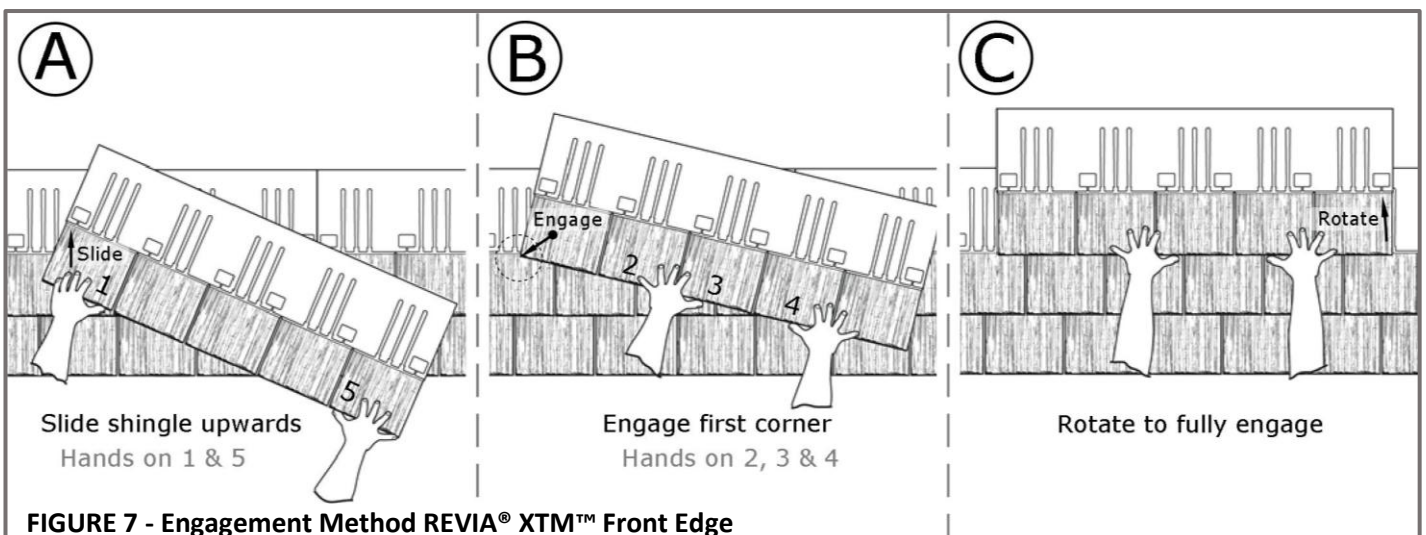

FIGURE 7 - Engagement Method REVIA® XTM™ Front Edge
- Engage Course #1 Front Edge Lock into starter Nail Line Lock using the same method used for subsequent courses. Follow Steps A, B and C. See **Figure 7**.